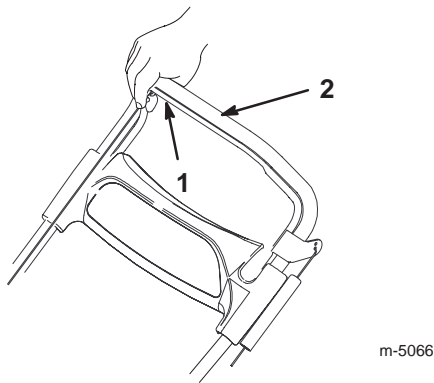

Figure 11
3. Hold the control bar to the right side of the handle as shown in Figure 11.